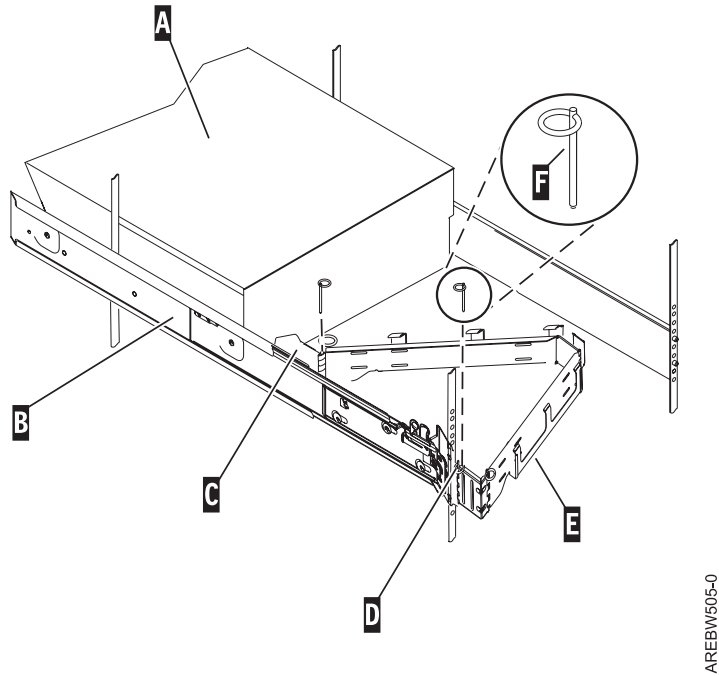

Figure 8. Attaching the cable-management arm
- Use the pin (F) to pin the cable-management arm (E) to the rack frame (D), as shown in Figure 8 on page 10.